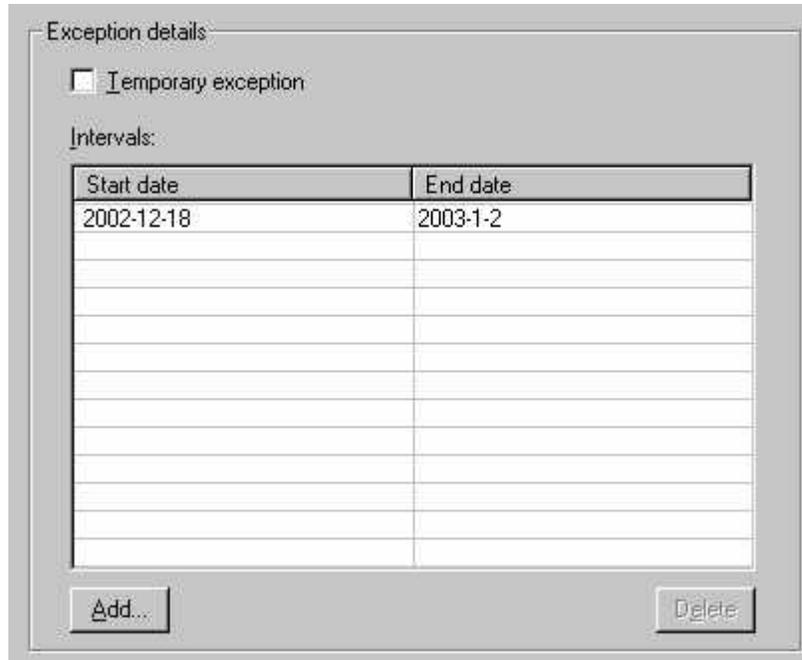

Figure 5.16 Exception Details Dialog
8. If you are in the **One-time Exceptions** tab, **Exception Details** dialog appears as shown in Figure 5.16.